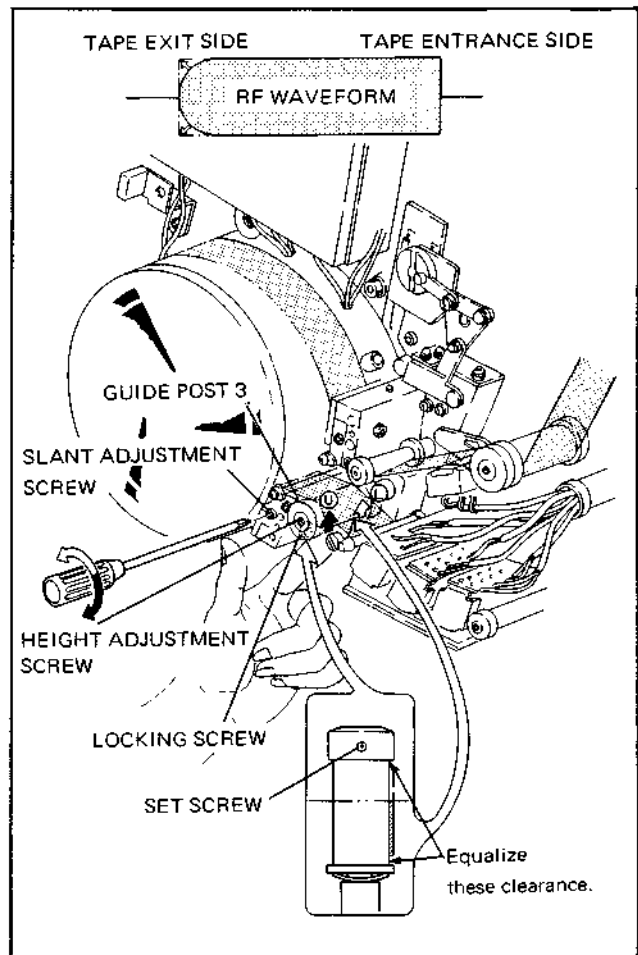

Fig. 10-16. Height Adjustment of Guide Post 3 and Slant Adjustment of Exit Slant Guide
22. Lightly push the $\text{\textcircled{U}}$ or $\text{\textcircled{L}}$ side of the tape shown in Fig. 10-16 and find out the side whose RF waveform on the tape exit side becomes flat. If the RF waveform flattens when the $\text{\textcircled{L}}$ side of the tape is pushed, turn the slant adjustment screw counterclockwise and if the waveform flattens when the $\text{\textcircled{U}}$ side is pushed, turn the adjustment screw clockwise.